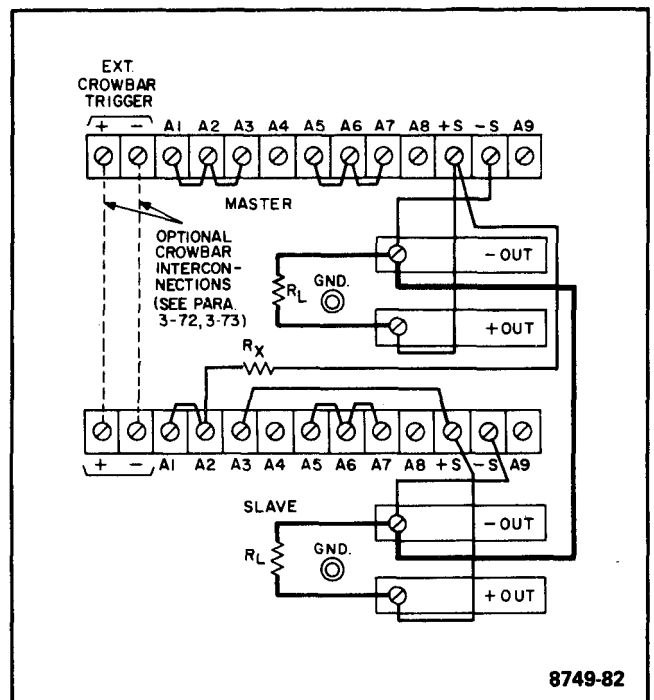

Figure 3-14. Auto-Tracking Operation of Two Units
3-68 Figures 3-14 and 3-15 show the rear panel interconnections required to operate two or three supplies in the auto-tracking mode. This mode of operation allows two or three supplies that share a common negative output bus to power separate loads and have their outputs simultaneously programmed by the voltage and current controls of a master supply. Unless their outputs are to be equal, the supply that is to have the greatest output voltage must be selected as the master. The output voltage of each slave supply remains a constant percentage of the master's with the percentage for each slave established by that slave's voltage control settings and the choice of its external programming resistor  $R_x$ . Any of the supplies included in this manual can be used as an auto-tracking slave, and any well-regulated variable output supply can be used as the master.
**3-73** In order to have all supplies in an auto-tracking combination crowbar simultaneously if any of them has an overvoltage condition, parallel their crowbar circuits as shown in Figure 3-14 or 3-15. Set the overvoltage potentiometer in each supply so that it trips at a point slightly above the voltage that supply will provide.